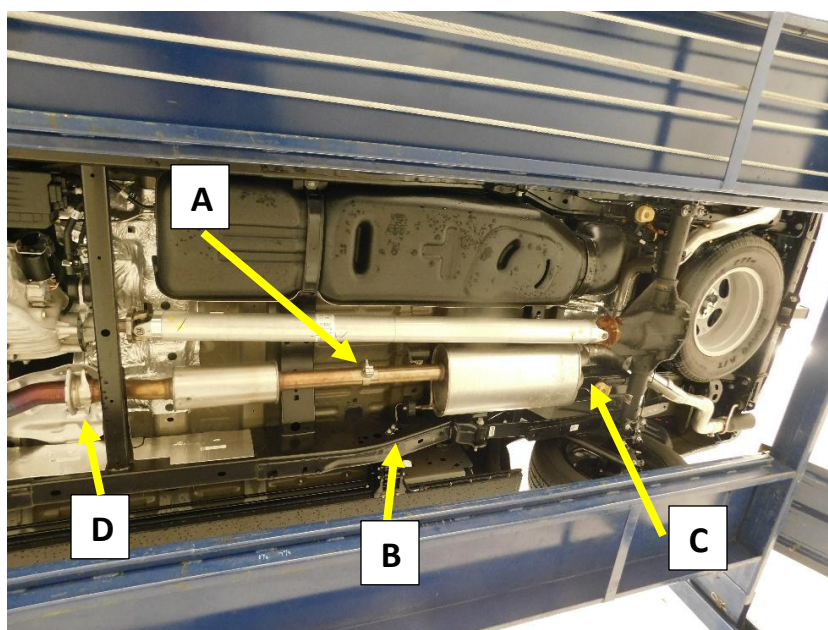

Figure.5
9. Loosen the clamp at the slip joint between the muffler and the resonator **(A)**. **Fig.5**
11. Remove the (x2) bolts at the muffler hanger on the frame rail **(B)**. **Fig.5**
12. Remove the bolt from the muffler hanger over the muffler and remove the hanger from the cross brace **(C)**. **Fig.5**
14. Remove the bolts from the flange at the resonator inlet pipe and remove the resonator **(D)**. **Fig.5**
2. Install the muffler hanger (B) **Fig.5/7** on the frame rail in the same location it was removed.